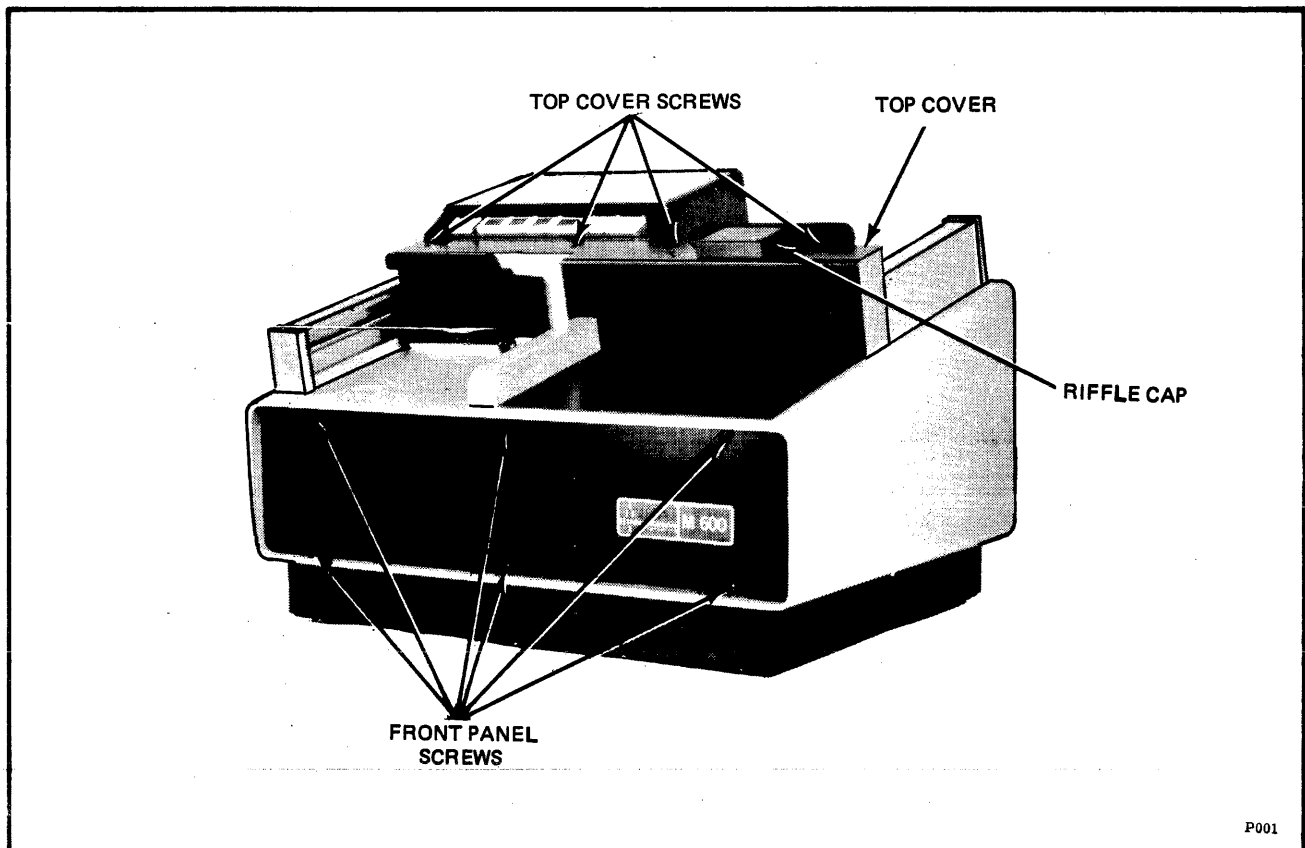

Figure 6-1. Front Panel and Top Cover Removal
- a. Remove six screws which hold front panel and remove panel, Figure 6-1.
- a. Remove two screws holding riffle air cap, Figure 6-1.